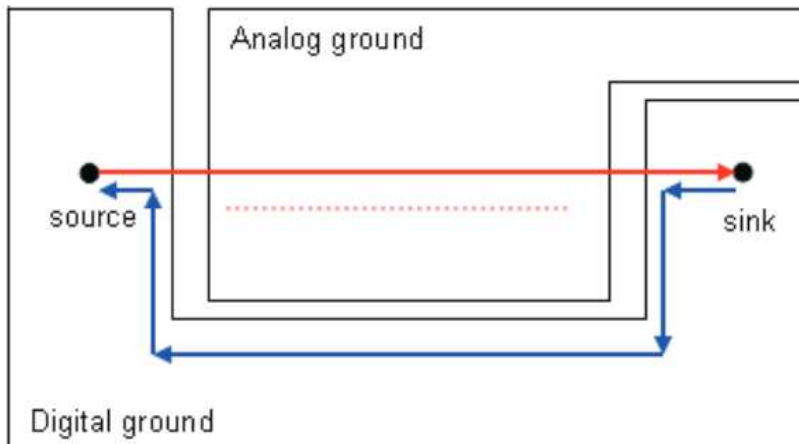

图 18. Loop Area and Crosstalk Due to Poor Signal Routing and Ground Splitting
- A routed trace over a gap creates large loop areas, because the return current cannot flow beside the signal, and the signal can induce noise into the nonrelated reference plane (图 18).